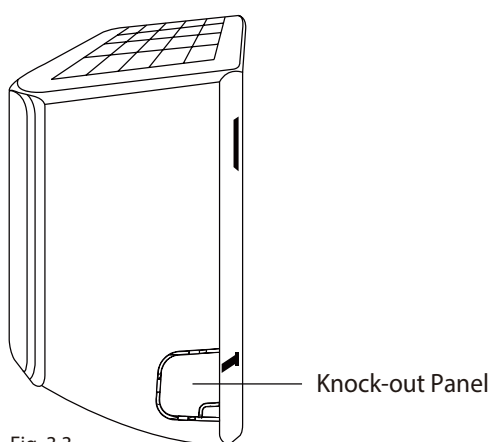

Fig. 3.3
2. If the wall hole is behind the unit, keep the knock-out panel in place. If the wall hole is to the side of the indoor unit, remove the plastic knock-out panel from that side of the unit. (See Fig. 3.3). This will create a slot through which your piping can exit the unit. Use needle nose pliers if the plastic panel is too difficult to remove by hand.